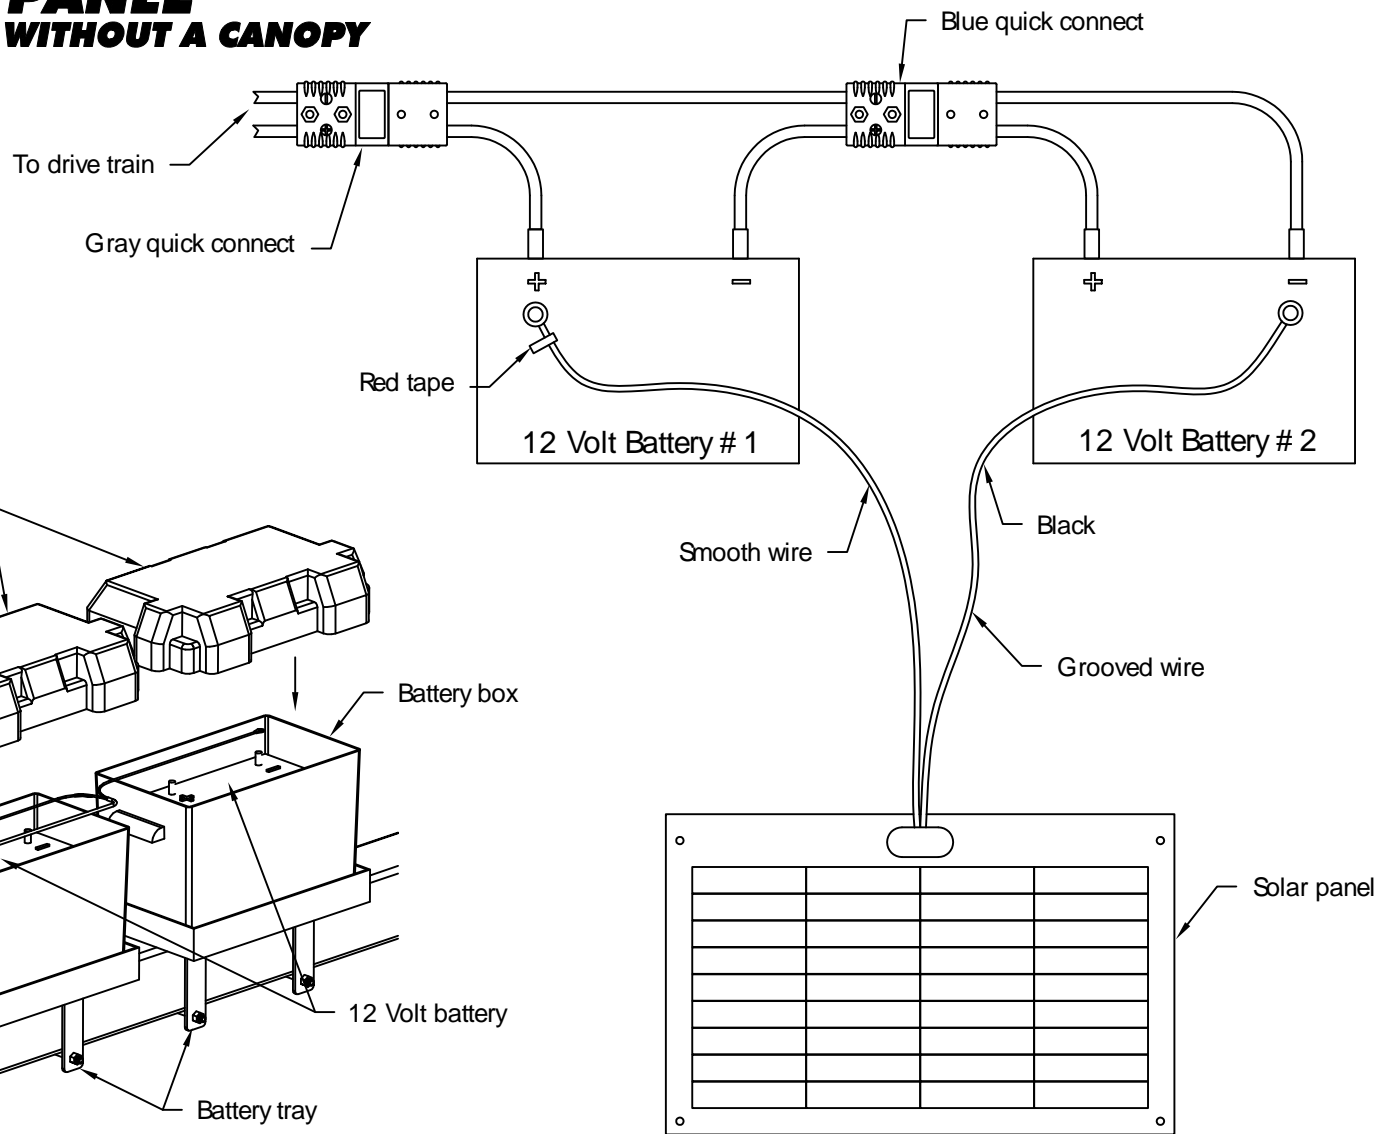

Fig. 4
4. Connect the solar panel to the battery as shown in Fig. 4. The smooth wire with red tape connects to the positive post on the first battery and the grooved wire connects to the negative post on the second battery. Strap the battery box cover to the battery box.